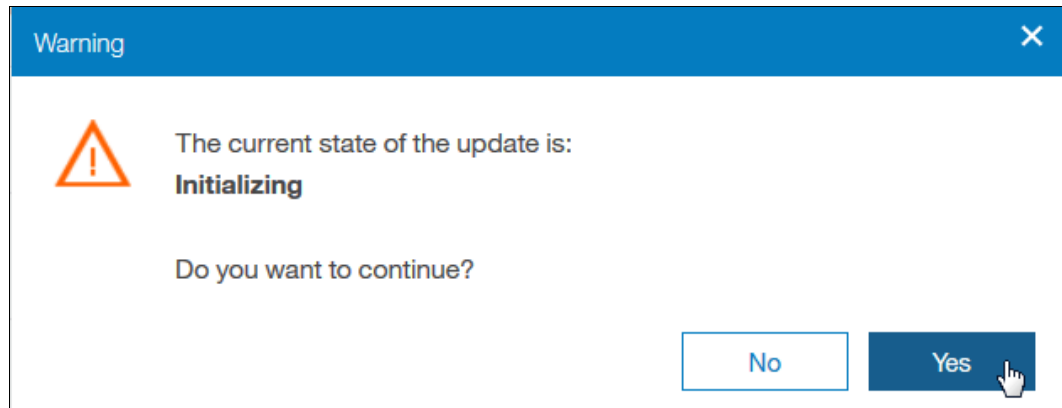

Figure 12-42 Initializing
10. You are prompted again if you really want to initialize the system (see Figure 12-42). Click **Yes** to proceed.